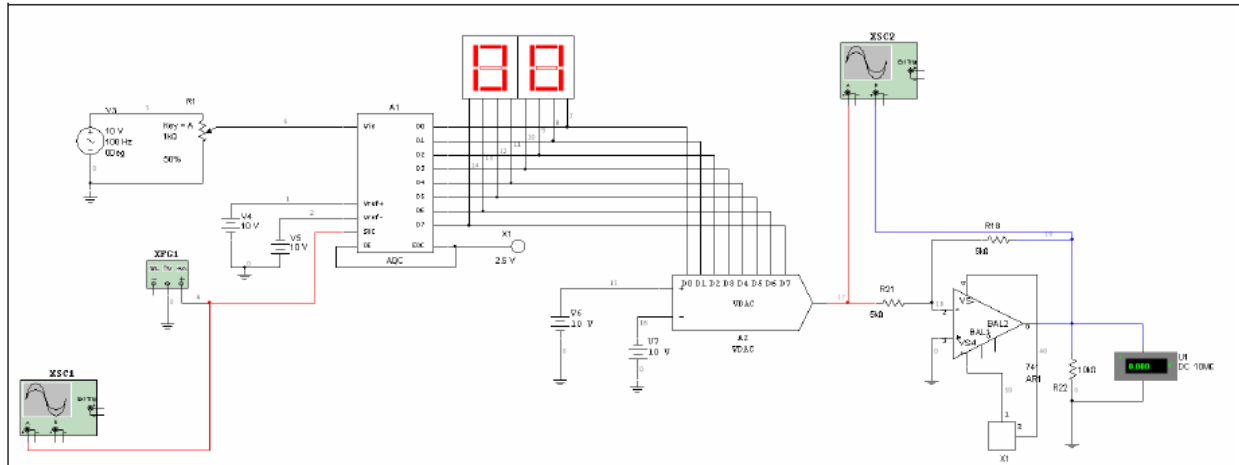

Fig. 4 Using Bus Connection
5. Connect the circuit components illustrated in Figure 4.